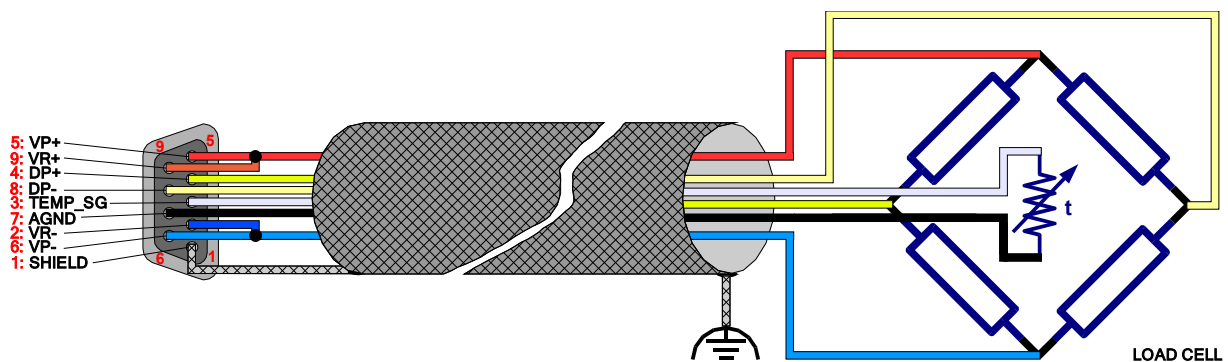

Fig. A.4 Four wire load cell: shield on load cell side grounded
- to the pin 1 of the DSUB connector of the SGACQA if the load cell transducer is supplied with grounded shield (fig. A.4 and A.6)